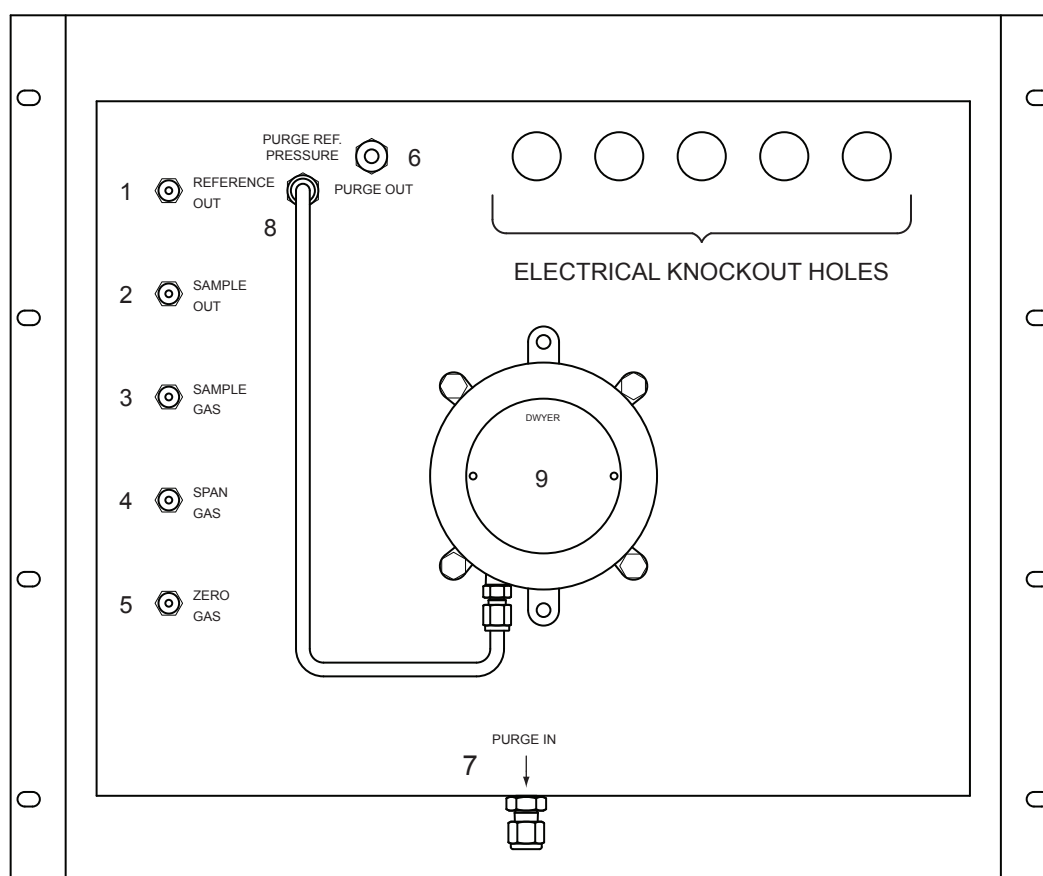

Figure 5-2: Back Panel
B. Back Panel shown in Fig. 5-2